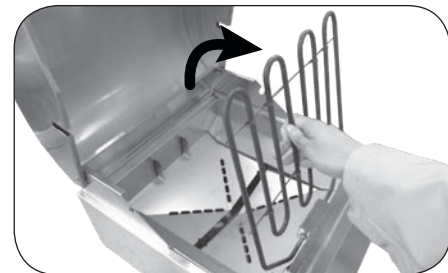

Fig. 20-2 Raise element upward
3. Grasp the cool cooking element and apply pressure towards the right of the grill. Once it clears the tab, completely raise it up (Fig. 20-2).